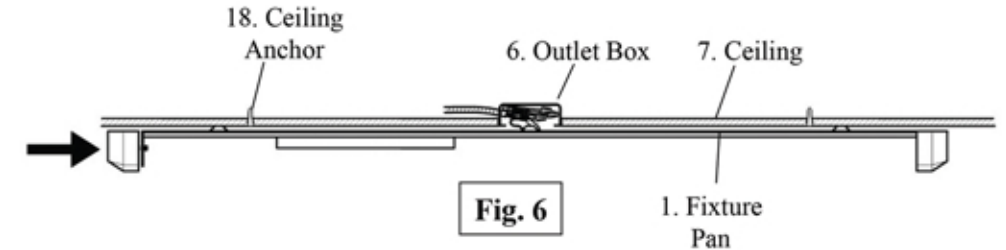

Fig. 6
5. Carefully tuck all wire connections into the Outlet Box (#6). Place the Fixture Pan (#1) onto the desired location, making sure that the halfway threaded Mounting Screws (#8) feed through the large openings of the Keyhole Slots (#16). Slide the Fixture Pan (#1) so that the Mounting Screws (#8) slide into the narrow slots of the Keyhole Slots (#16). Tighten the Mounting Screws (#8) down to secure the Fixture Pan (#1) in place. **(Fig. 6 & 6-1)**